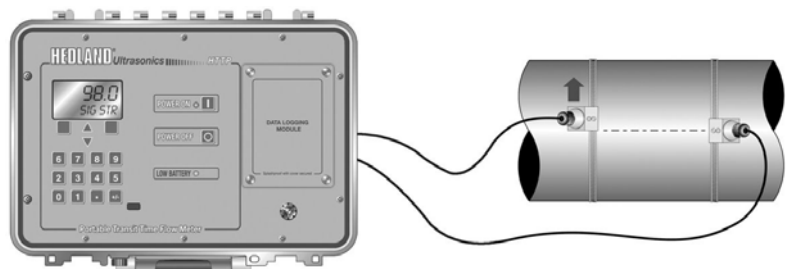

Figure 2.5 High Signal Strength Condition
5. Certain pipe and liquid characteristics may cause Signal Strength to rise to greater than 95%. The problem with operating a HTT with very high Signal Strength is that the signals may saturate the input amplifiers and cause erratic readings. To decrease the Signal Strength, move one transducer a small distance radially around the pipe, as shown in **Figure 2.5**.
be offset radially, as illustrated in **Figure 2.5**, or a V-Mode mounting method may be chosen.